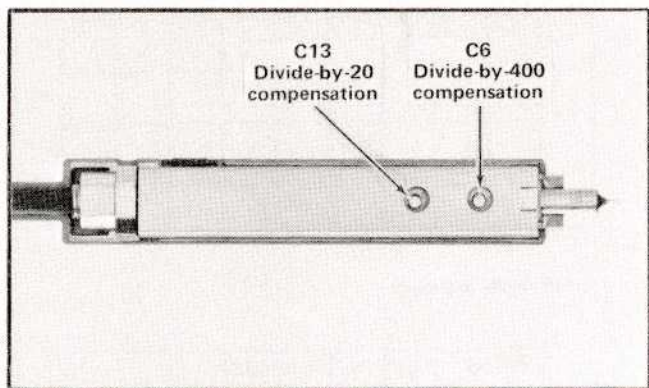

Fig. 5-16. Probe input compensation adjustment locations; step 13.
i. ADJUST—Divide-by-20 Input Compensation C13 (Fig. 5-16) as necessary to obtain optimum squareness at the top left corner of the square waves, duplicating the Calibration Fixture's 250 kHz display. Overshoot, rounding and tilt should be within 0.2 division. Ignore any aberrations that may exist at the upper right corner of the square waves.
q. ADJUST—Divide-by-400 Input Compensation C6 (Fig. 5-16) to obtain optimum squareness at the top left corner of the square waves. Overshoot, rounding and tilt should be within 0.2 division of duplicating the Calibration Fixture's 250 kHz display. Ignore aberrations at the right corner.